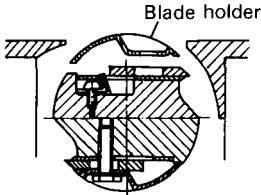

Fig. 12
- (2) Place the blade holder on the completed assembly, as shown in Fig. 12, and fasten it with the three bolts. Ensure that the bolts are securely tightened.
- (3) Turn the cutter block over, and set the other side in the same manner.